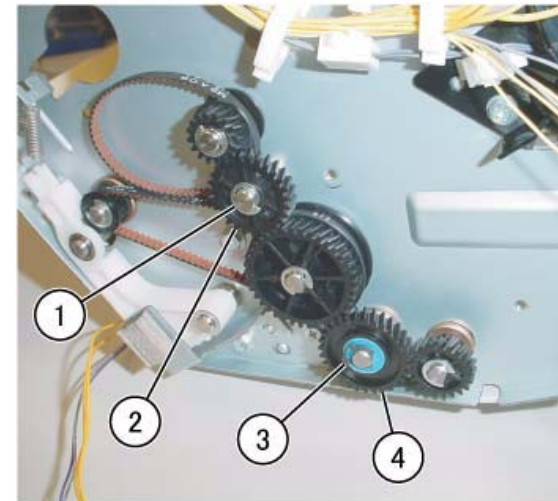

Figure 1 Removing the Gear (j0fa42292)
3. Remove the Gear. (Figure 1)